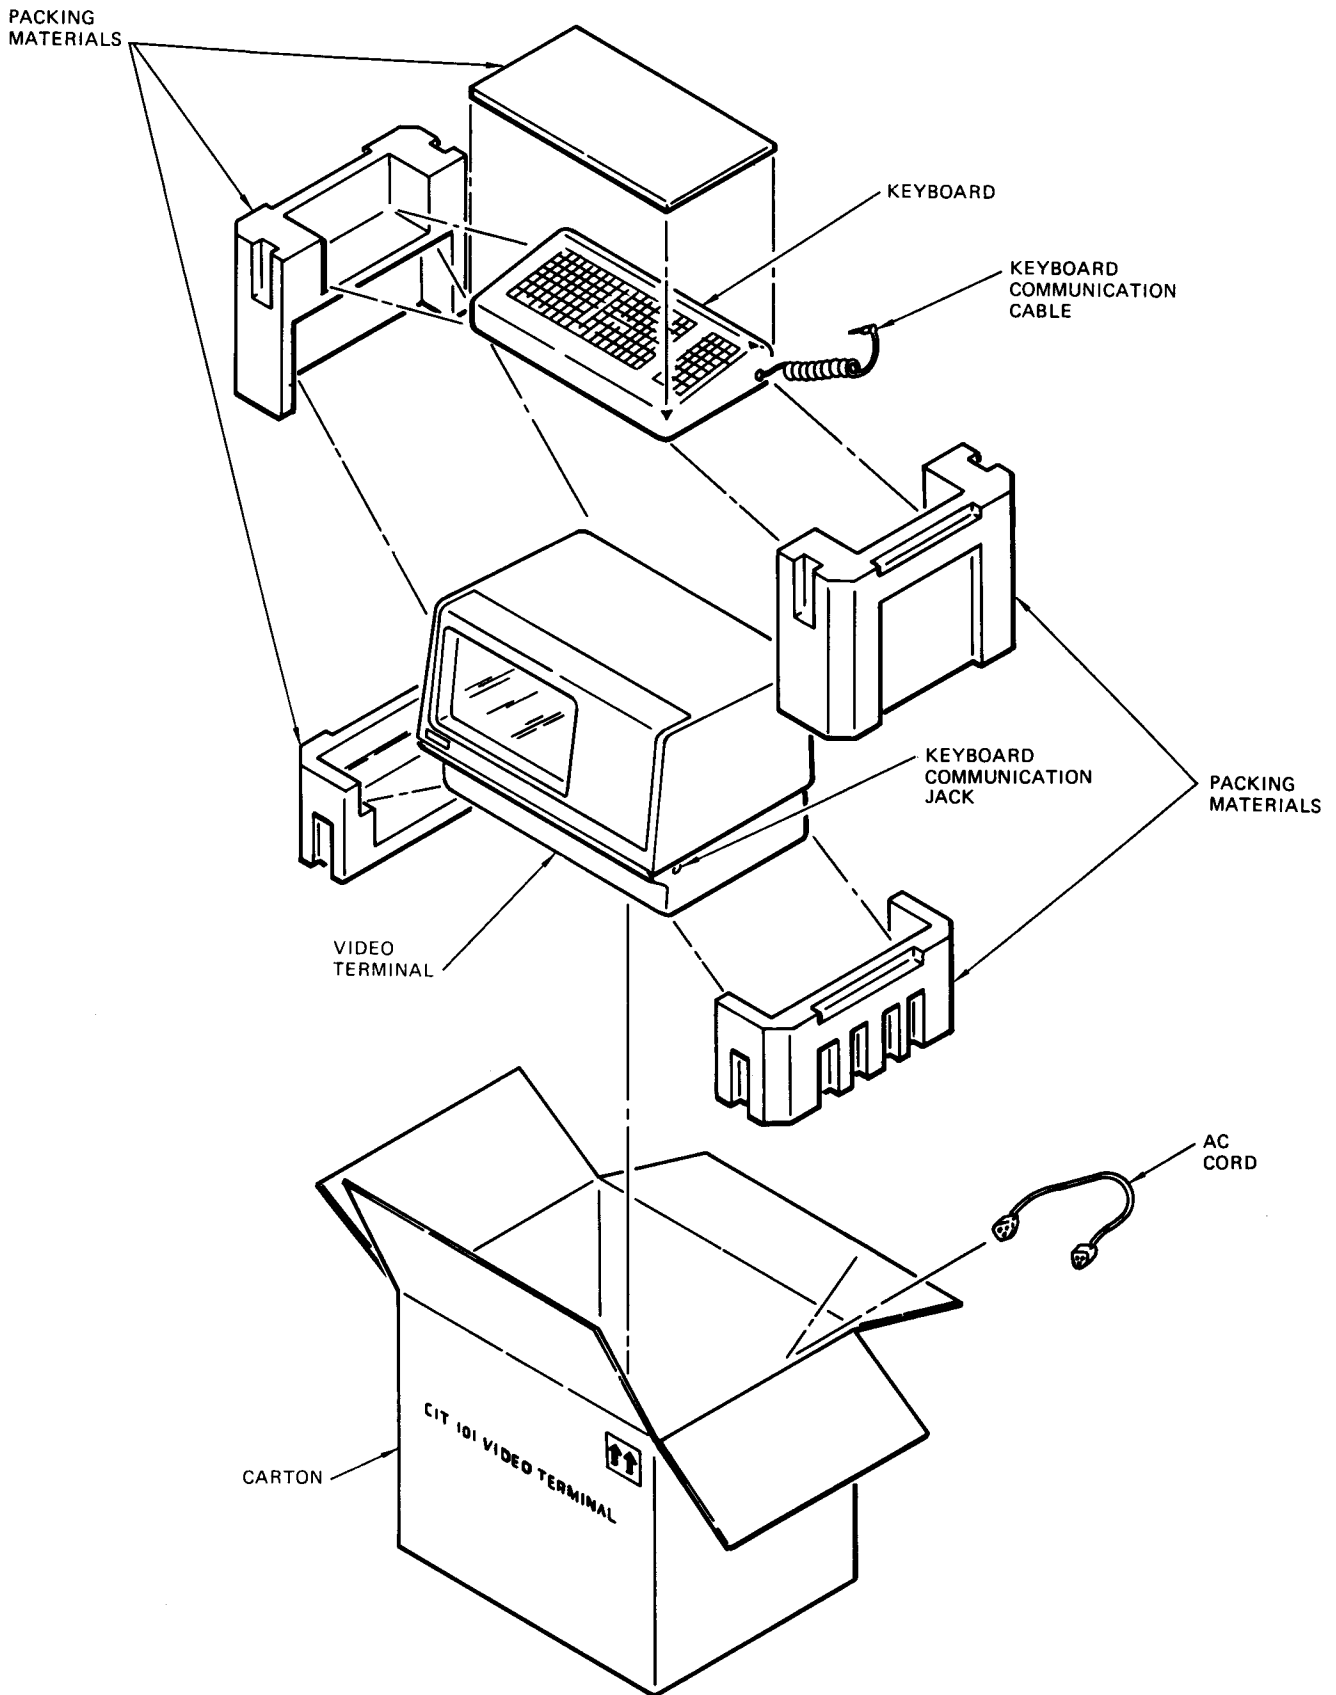

Figure 2-1. CIT-101 Unpacking
The CIT-101 is shipped complete in one shipping container. Refer to the following steps and figure 2-1 to unpack the CIT-101.
2. Open top of carton and carefully remove contents as shown in figure 2-1.
**2.6.2.1 Keyboard Cable Attachment.** Plug keyboard cable connector into jack located at lower right corner of the video terminal, refer to figure 2-1.